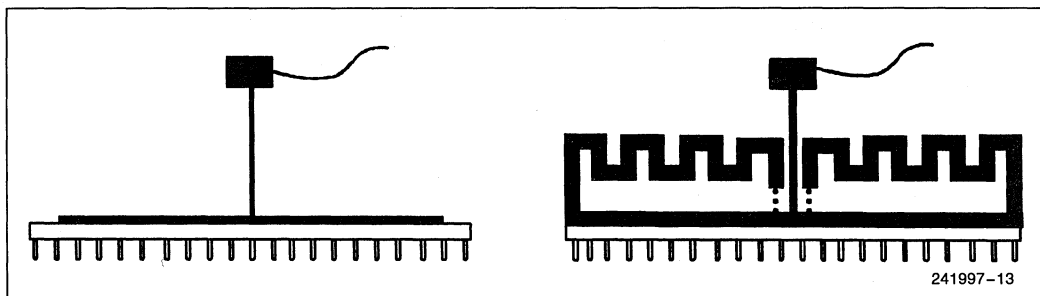

Figure 14. Technique for Measuring  $T_C$
- The thermocouple should be attached at a 90-degree angle as shown in Figure 14.